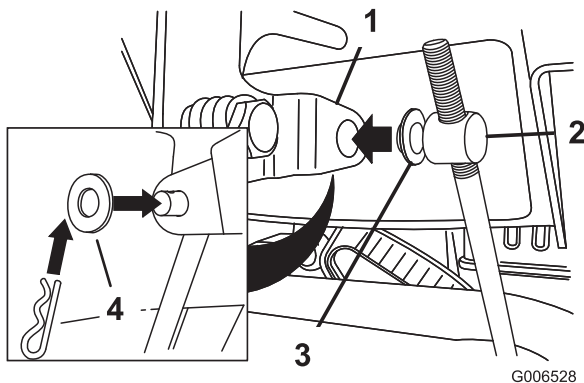

Figure 6
3. Place a flat washer on the trunnion (Figure 6).
6. Pull up the speed-control rod and insert the trunnion into the hole in the speed-selector lever (Figure 6).
- B. Disconnect the trunnion from the speed-selector lever (Figure 6).
- C. Turn the trunnion upward (counterclockwise) on the speed-control rod (Figure 6).
- D. Connect the trunnion to the speed-selector lever (Figure 6).
- C. Turn the trunnion downward (clockwise) on the speed-control rod (Figure 6).